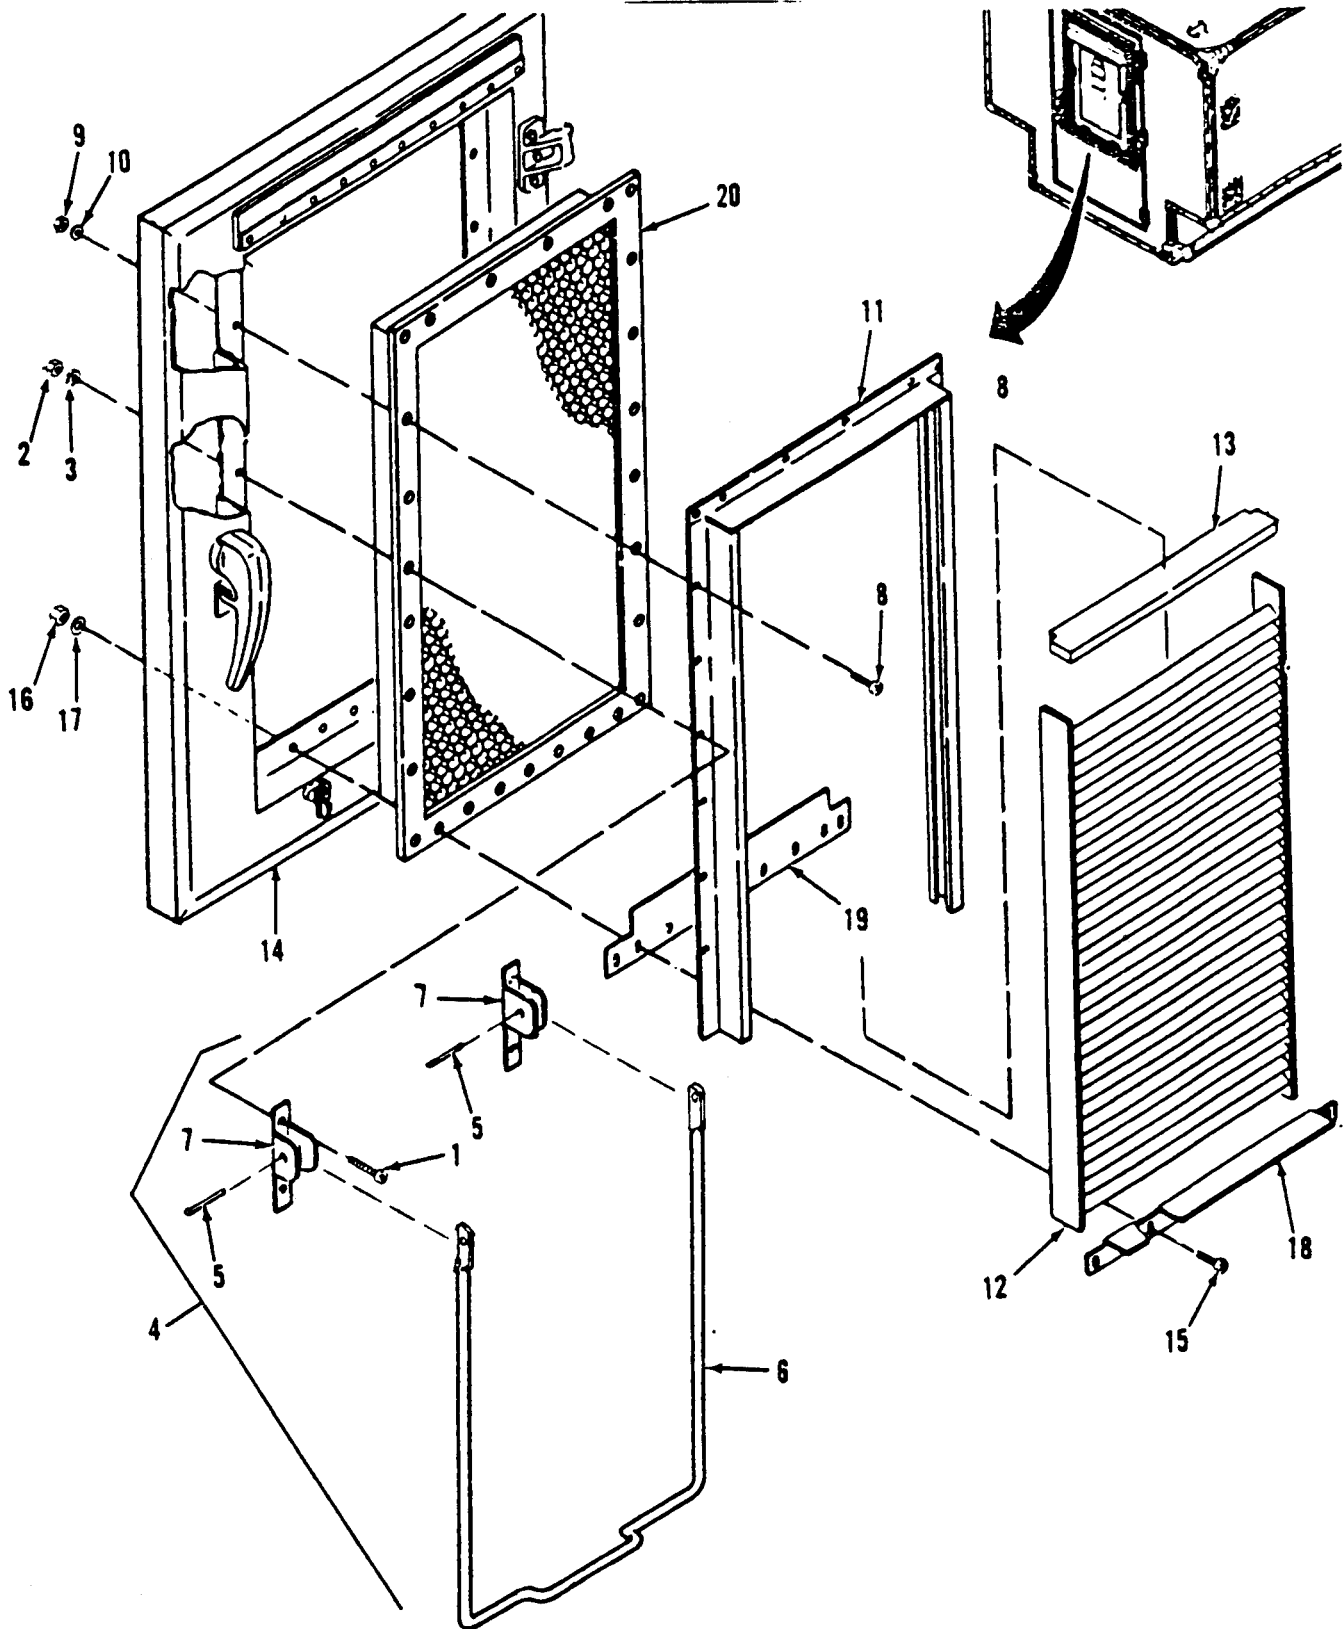

Figure 3-26. Louver Assembly, Holder Assembly, and RFI/EMI Filter Replacement.
a . Inspect. (Figure 3-26)
b . Remove. (Figure 3-26)
d. Install. (Figure 3-26)
- (1) Apply sealer to both ends of top flange of shield (19).
- (2) Position RFI/EMI filter (20), shield (19), and frame (18) in place into inner door assembly (14), and secure with seven phillips head screws (15), nuts (16), and lock washers (17).
- (3) Apply silicone sealer on mounting surface of gasket (13) and insert gasket (13) and louver assembly (12) into frame assembly (11).
- (4) Position frame assembly (11) in place against RFI/EMI filter (20) and secure with 31 phillips head screws (8), nuts (9), and lock washers (10).
- (5) Position each end of holder (6) into bracket assemblies (7) and secure with groove pins (5).
- (6) Position holder assembly (4) in place over frame assembly (11) and secure with four phillips head screws (1), nuts (2), and lock washers (3).
- (7) Apply a continuous bead of sealer around mounting edges of frame (18) and frame assembly (11).